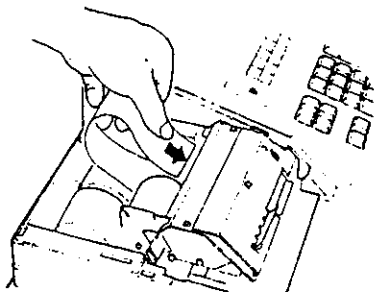

Fig. 8
4. Place the paper roll in the inner roll holder of the two holders. (Fig. 8)